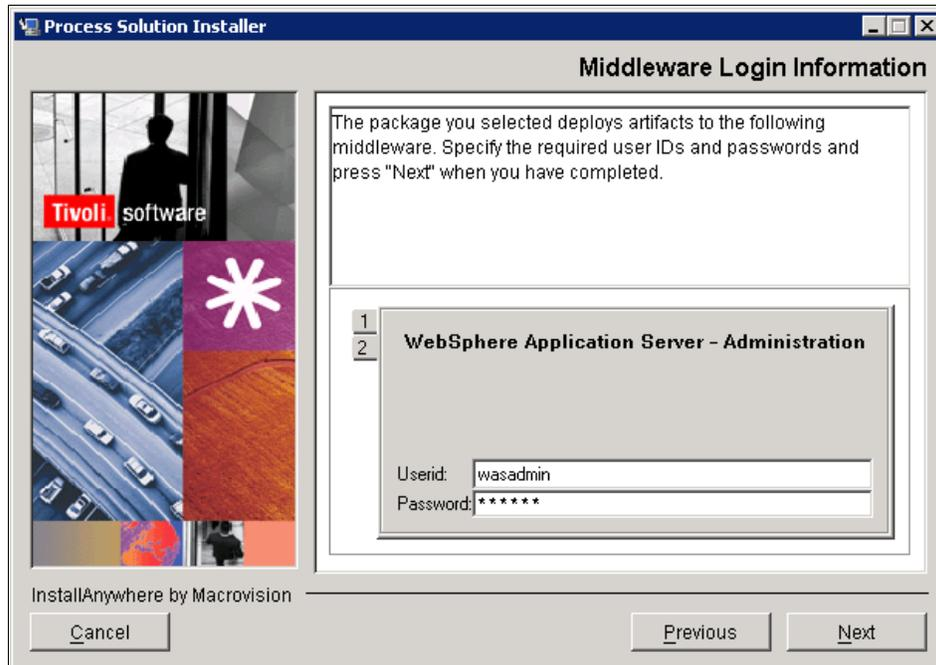

Figure 8-8 WebSphere credentials
15. Enter the WebSphere credentials in the Middleware Login Information dialog box, as shown in Figure 8-8 on page 227. You are required to enter these credentials in order to continue. They are used to access WebSphere, and they are used to rebuild and redeploy the EAR files.